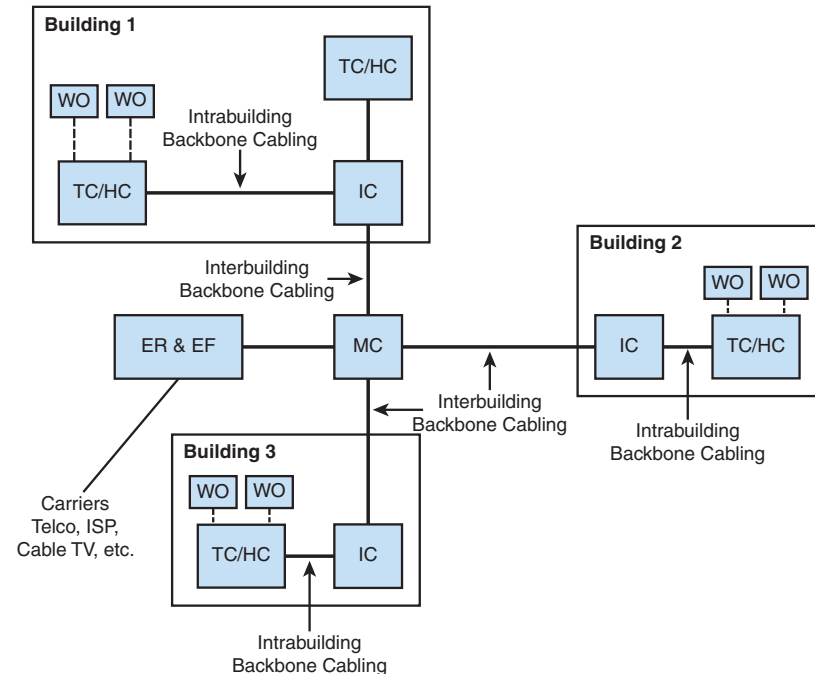

FIGURE 2-1 Telecommunications cabling system architecture.
Figure 2-1 shows an example of the structure for a telecommunications cabling system. It shows the connection of the carriers (telco, ISP, and so on) coming into the ER, which is the space set aside for the carrier's equipment contained in the **main cross-connect (MC)** or **intermediate cross-connect (IC)**. The EF consists of the cabling, connector hardware, and protection devices that are used as the interface between any external building cabling and wireless services with the equipment room. This area is used by both public and private access providers (for example, telco, satellite, cable TV, security). The ER and EF space is typically combined with the MC equipment room.
Between the MC and the IC is the campus backbone cabling (listed in Figure 2-1 as the interbuilding backbone cabling), which provides connections between the MC and IC. A **cross-connect** is a space where one or multiple cables are connected to equipment or other cables. For example, you could be bringing in 60 UTP cables, with 50 that are cross-connected to a switch and 10 that are cross-connected to a backbone cable going to another location. Typical connections between the MC and IC are single-mode and multimode fibers and possibly coax for cable TV, although most installations are migrating to fiber. The building backbone cabling (that is, intrabuilding backbone cabling) makes the connection between the IC and the telecommunications closet (TC) and **horizontal cross-connect (HC)**. Today this connection is CAT6 UTP or better, although it might be single- or multimode fiber or some combination. Fiber is the best choice for making these connections, although copper is still commonly used. The horizontal cabling is the cabling between the HC and the work area. It is usually CAT6 UTP or better or fiber. The standard currently specifies CAT6. Fiber is gaining acceptance for connecting to the **work area outlets (WOs)**.